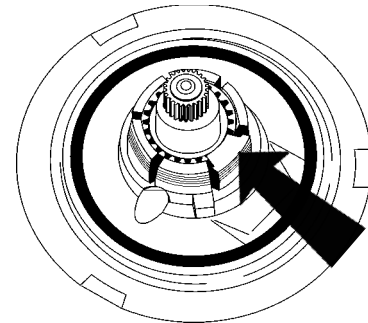

Fig. 3-16
1. One portion of the spin tube does not have vertical splines. There is a corresponding portion of the drive block that does not have vertical splines. The top surface of the portion of the drive block without splines is slightly wider and should be aligned with the corresponding portion of the spin tube when setting the basket back into the tub. (Fig. 3-16)